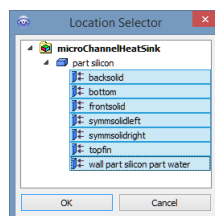

Figure 61: Select locations for contour plot.
- (c) In the *Location Selector* dialog box that will appear, select all the solid surfaces, as indicated in figure 61.